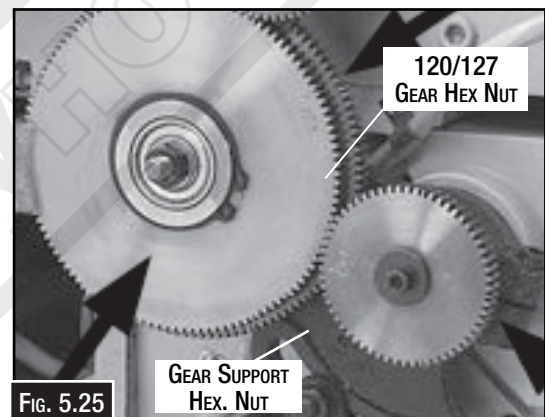

FIG. 5.25
4. While holding the 120T/127T gears, loosen the arm by undoing the gear support hex nut and slowly let the gears pivot down and away from the upper top gear, as illustrated. (Fig. 5.25)
5. Loosen the 120T/127T gear hex nut and slide the middle gear away from the bottom gear. The 120T/127T gears many need to be reversed. Undo the 120T/127T gear hex nut (Fig. 5.25) and reverse the gears.